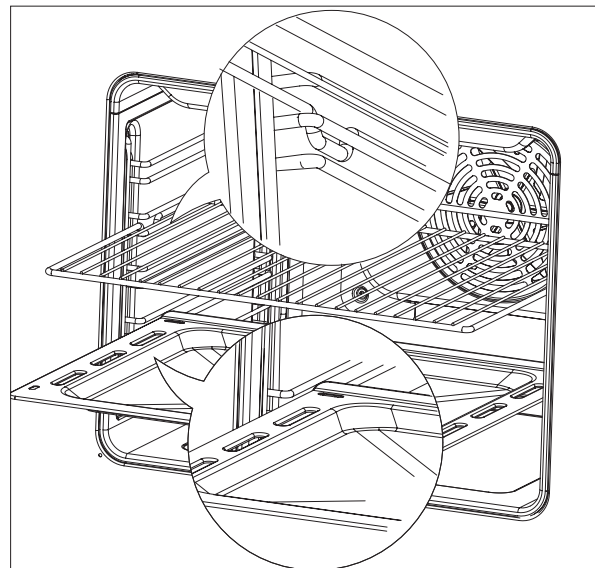

Fig. 5
- Remove all shelves for either the oven (Fig. 5)